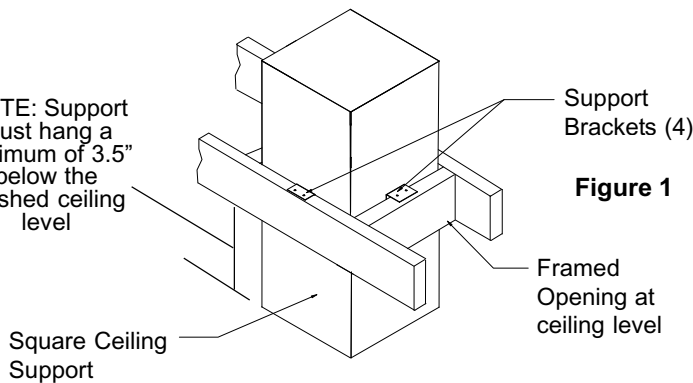

Figure 1
1. The Ceiling Support must be installed so that it hangs a minimum of 3.5" (86 mm) below the finished ceiling level (see Figure 1).